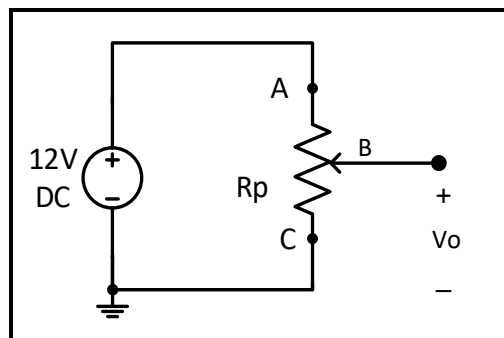

Figure 3.6
2. For the circuit of Figure 3.6: R_p is a 10 k Ω potentiometer (three-terminal resistor), Calculate R_{AB} and R_{BC} so that $V_o = 3$ V.
2. For the circuit of Figure 3.6: